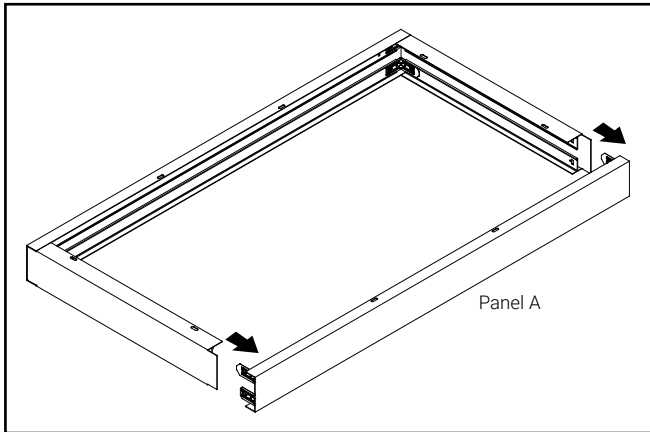

**Figure 4.**
9. Remove access panel A and set aside (Figure 4).